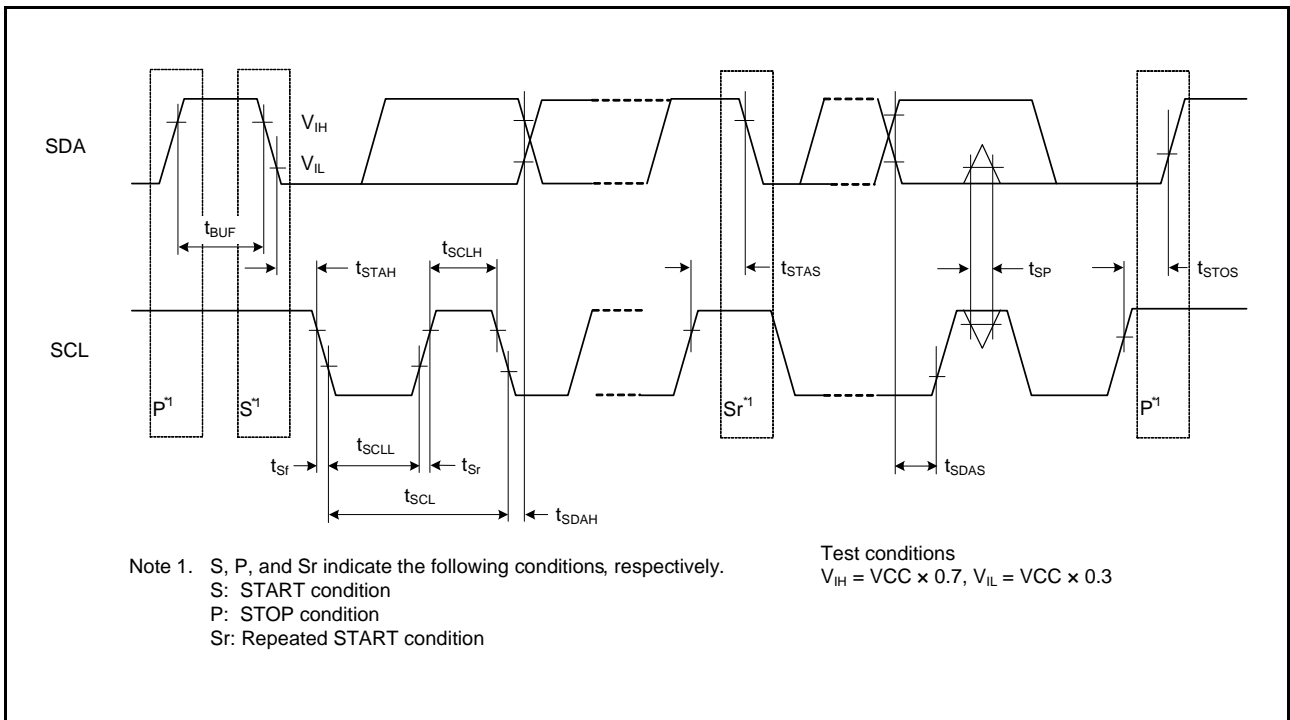

Figure 5.47 RIIC Bus Interface Input/Output Timing and Simple I2C Bus Interface Input/Output Timing
| RIIC (Standard mode, SMBus) | SCL cycle time | t _{SCL} | 6 (12) × t _{IICcyc} + 1300 | — | ns | Figure 5.47 |
| RIIC (Fast mode) | SCL cycle time | t _{SCL} | 6 (12) × t _{IICcyc} + 600 | — | ns | Figure 5.47 |
| Simple I ² C (Standard mode) | SDA rise time | t _{sr} | — | 1000 | ns | Figure 5.47 |
| Simple I ² C (Fast mode) | SDA rise time | t _{sr} | — | 300 | ns | Figure 5.47 |